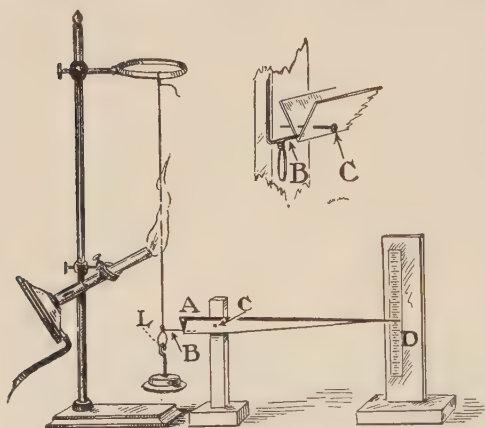

FIG. 17. — The pointer rises on scale *D* when the wire is heated. Why?
14. Expansion of solids demonstrated. Suspend one end of a No. 14 copper wire, 2 to 3 feet long, from a support, as in Fig. 17. Make a loop (*L*) near the other end of the